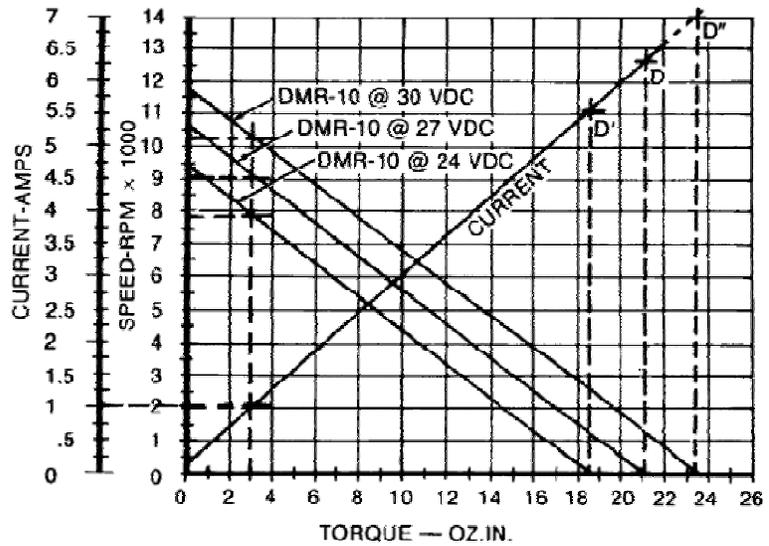

Figure 2
3. Plot this new point (see Figure 2 , page 4) and draw a line through it parallel to the 27 VDC curve. This is the performance of the motor at 24 VDC.
- iii. Refer to Figure 2: the motor speeds show that the load was 3 oz. in. and the voltage varied between 24 and 30 VDC:7800 rpm to 10,200 rpm.